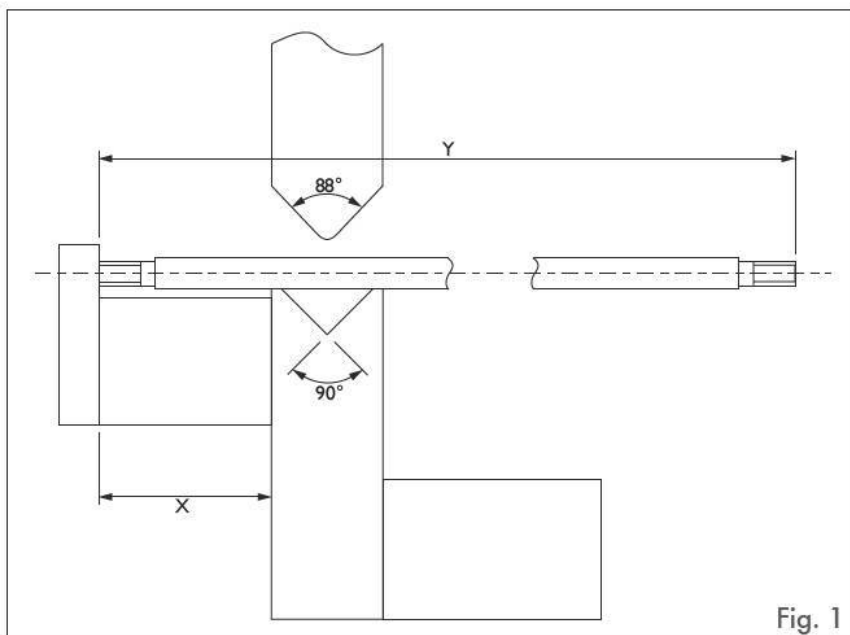
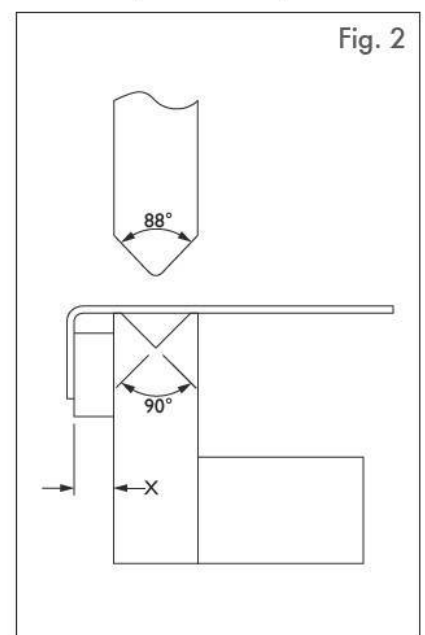

Fig. 1
Fig. 2
Now, let's assume that we need to make a part with similar geometry to the sandbox rod cover. Put a first bend in a piece of scrap material of the same thickness as the sheet to be used for the cover, using the set-up shown in fig. 1. Make the distance from the edge to the first bend about $\frac{1}{2}$ inch, so X would be $\frac{1}{4}$ inch. Then, using the set-up in fig. 2, put a second bend in the test piece using a piece of $\frac{1}{4}$ inch thick material, clamped to the rear of the die, as a stop. Measure the distance between the two bends and adjust the thickness of the stop (X) to give the exact dimension you need. This will also inform what thickness of stop you need for the final bend. Photograph 6 shows the repeatability achievable.
To make a handrail, use the set-up in fig. 2 with a packing piece (X) of $\frac{3}{8}$ inch thickness. Bend a test piece of $\frac{1}{8}$ inch diameter rod (I used 303 stainless steel) without the turned and threaded end. Compare the length of the leg with what you need. Adjust the stop (X) accordingly. Now turn another test piece to a precise but arbitrary length in the lathe, again without waisted and threaded ends. Bend both ends and true up the angles in the vice and then measure the distance